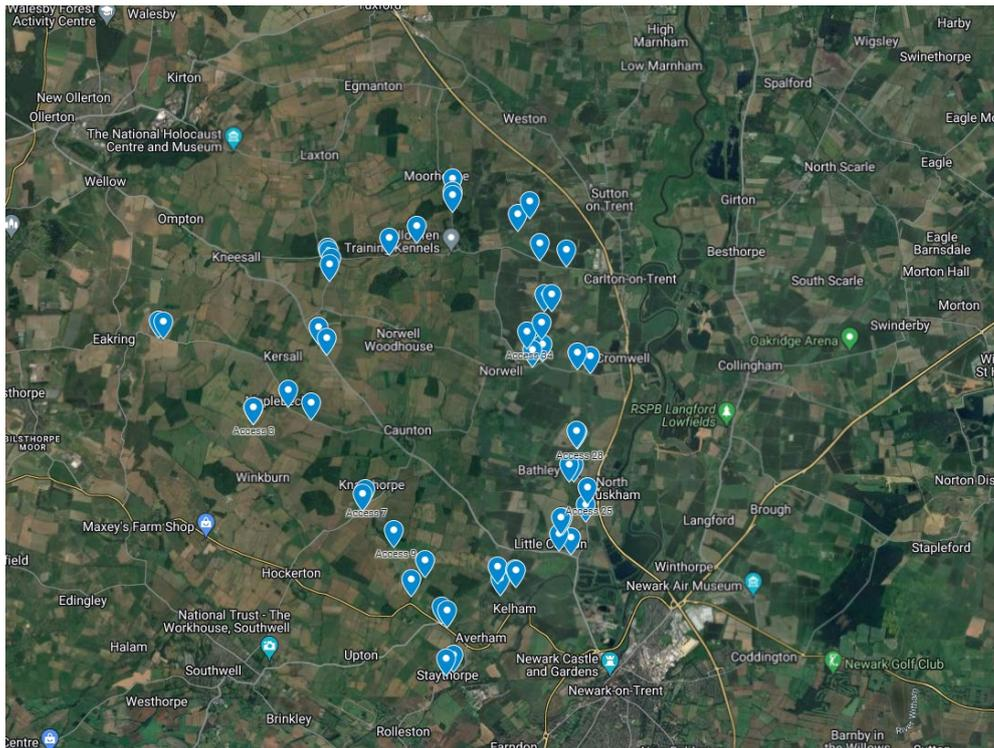

Figure 1. Cable Drum access points for GNR Solar and Biodiversity Park Project
- 3.10. A map of the sites is provided below as Figure 1 as provided in the interactive map which details the overall cable drum route and access points required. 52 sites have been considered.